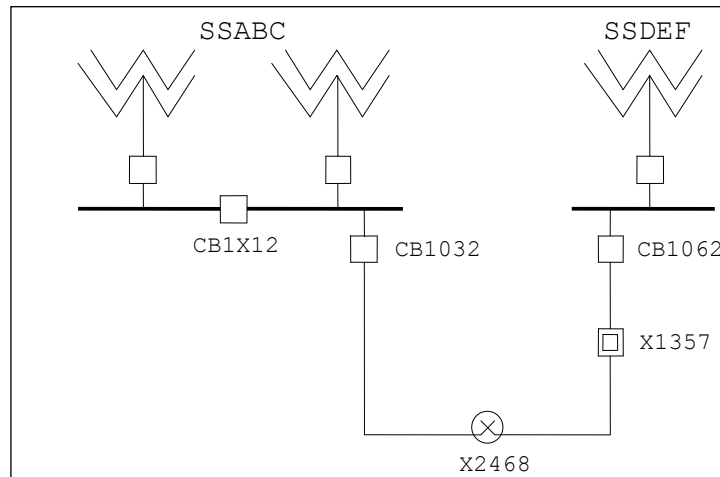

figure 2.13.1
- When paralleling 11kV feeders supplied from different substations, disable the SEF protection at both substations (see example 1 figure 2.13.1).